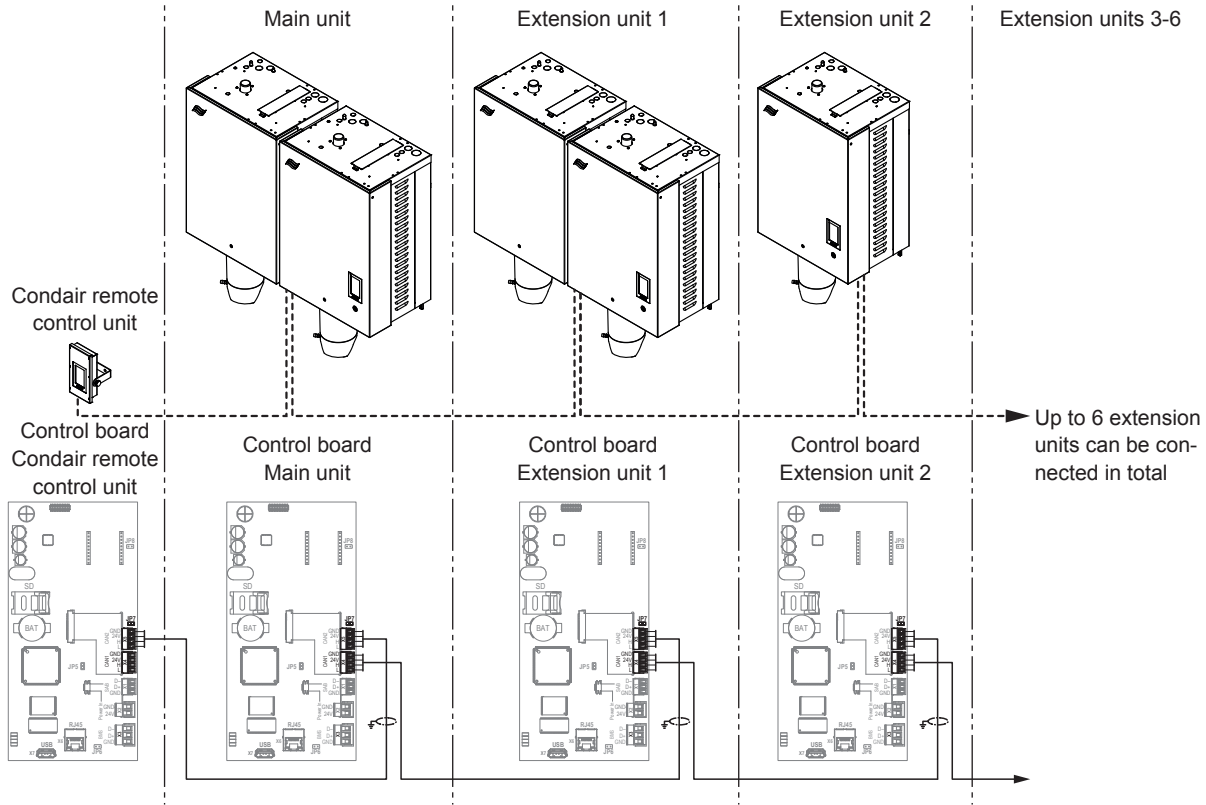
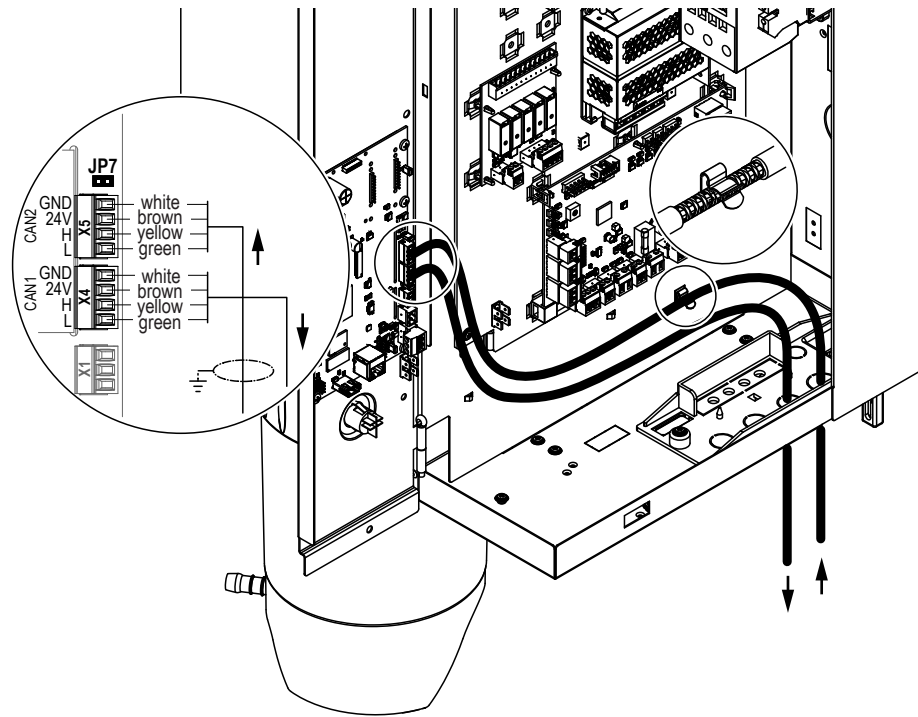

Fig. 32: Connecting multiple units (device interconnected system)
Fig. 33: CAN Bus cable connection / Shielding
Connect multiple units as follows (see Fig. 32):
2. Connect all devices in the "device interconnected system" using the supplied pre-assembled CAN Bus cables according to the diagram shown in Fig. 32 and Fig. 33.
- Pinch the freed shielding of the pre-assembled CAN Bus cable coming from the coming from the previous device into the clamp holder inside the control compartment of the humidifier as shown in Fig. 33.
- Connect CAN Bus cables to the corresponding terminal block (incoming cables to "X5" and outgoing cables to "X4") as shown in Fig. 33 on the control board of each device.